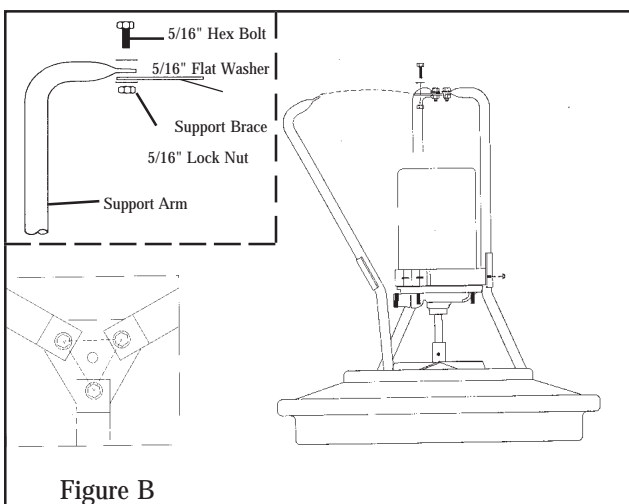

Figure 21
D. Installing remaining support arms - see Figure 21
2. Attach each of these arms to the mounting ring with (2) 1/4" flange nuts. Use the second set of holes down from the top of the support arm. torque the bolts to 10-12 ft/lbs.
3. Attach the bottom of the support arms to the support arm brace with (1) 5/16" lock nut, (1) 5/16" flat washer, and (1) 5/16" hex bolt for each of the three arms. Torque the bolts to 15-17 ft/lbs.